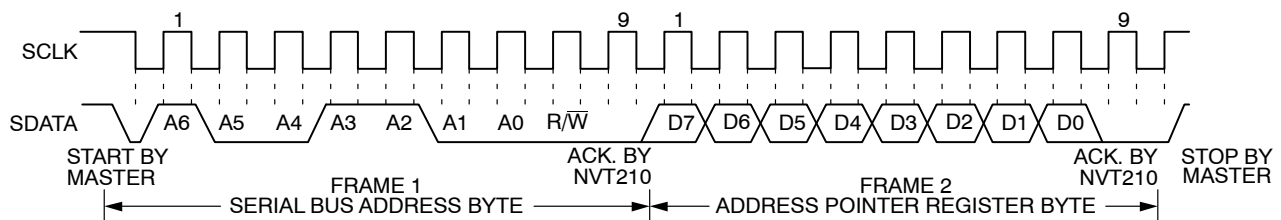

Figure 16. Writing to the Address Pointer Register Only
- If the address pointer register value of the NVT210 is unknown or not the desired value, it is first necessary to set it to the correct value before data can be read from the desired data register. This is done by writing to the NVT210 as before, but only the data byte containing the register read address is sent, because data is not to be written to the register see Figure 16.
- If the address pointer register is known to be at the desired address, data can be read from the corresponding data register without first writing to the address pointer register and the bus transaction shown in Figure 16 can be omitted.